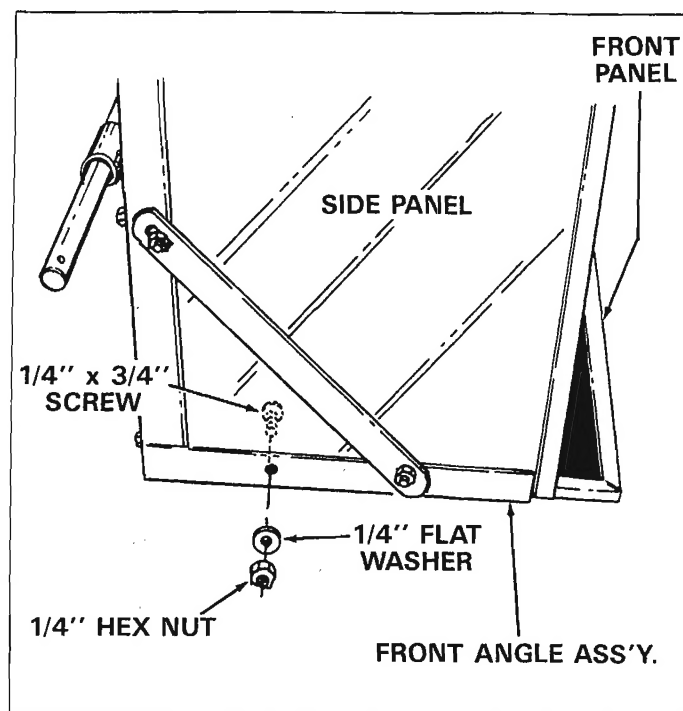

FIGURE 7
12. Assemble one 1/4" x 3/4" truss head screw through bottom hole in side panel and front angle assembly. Secure flat washer and hex nut. See figure 7. **Make only finger tight at this time.**